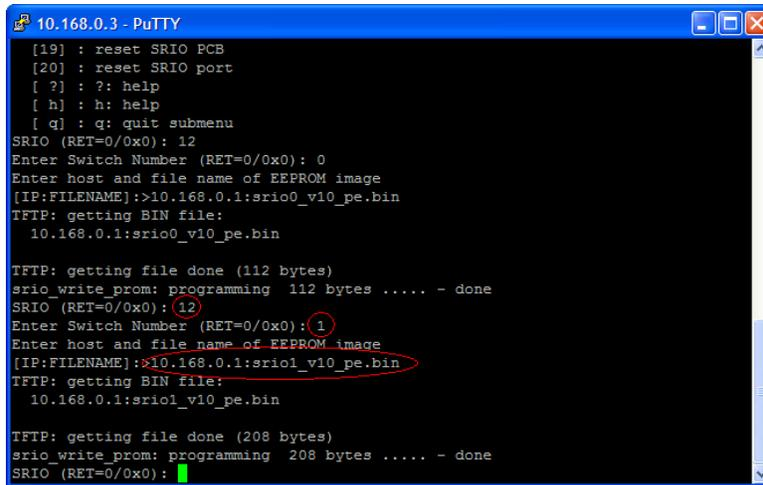

Figure 2-29: MCH Telnet Window
18. Under the `SRI0 (RET=0/0x0):` prompt, type **12** then press **Enter**. At the `Enter Switch Number (RET=0/0x0):` prompt, type **1** then press **Enter**. At the `[IP:FILENAME]:` prompt, type **10.168.0.1:srio1\_v10\_pe.bin**, then press **Enter**. You should see "srio\_write\_prom: programming 208 bytes ... - done", as shown in Figure 2-29.